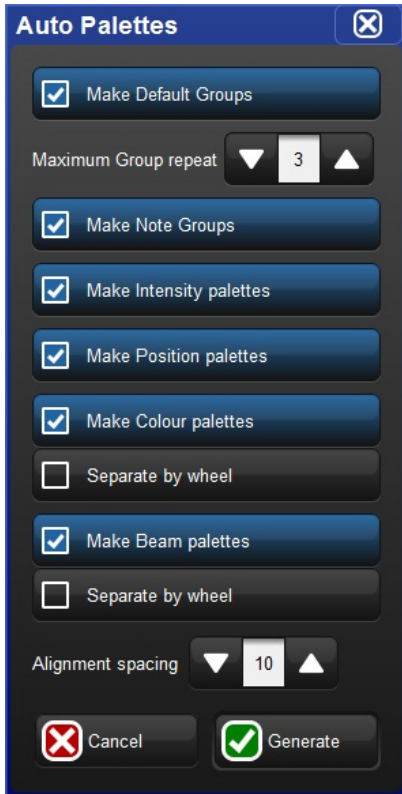

Figure 5.11. The Auto Palettes window
2. Click on the Auto Palettes button (located in the toolbar at the top of the Fixture window) and select from the options in the Auto Palettes window; see Figure 5.11, “The Auto Palettes window”.